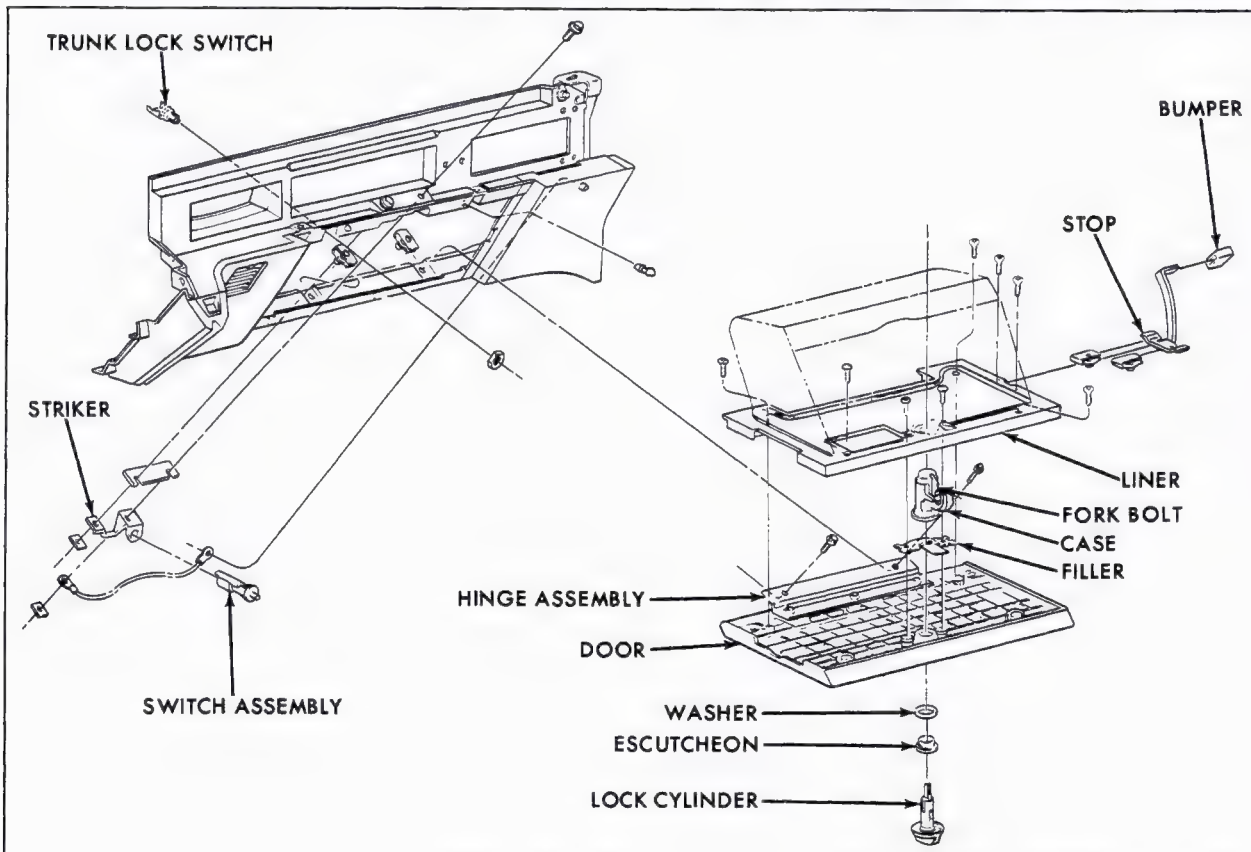

Fig. 12-46 Glove Box Disassembled
77. Glove Box Liner (Fig. 12-46)
78. Glove Box Door (Fig. 12-46)
79. Glove Box Lock (Fig. 12-46)